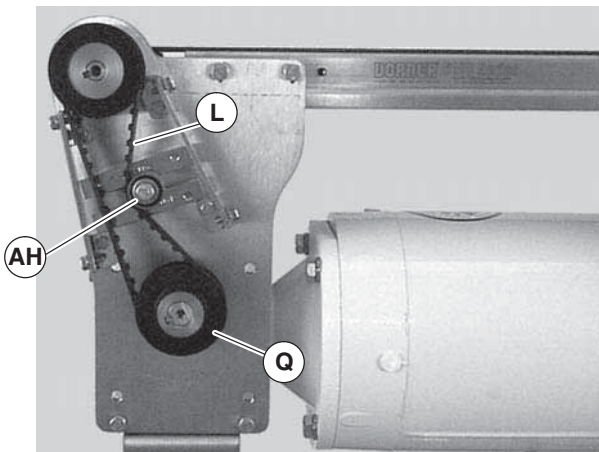

Figure 33
2. Loosen tensioner (Figure 33, item AH).